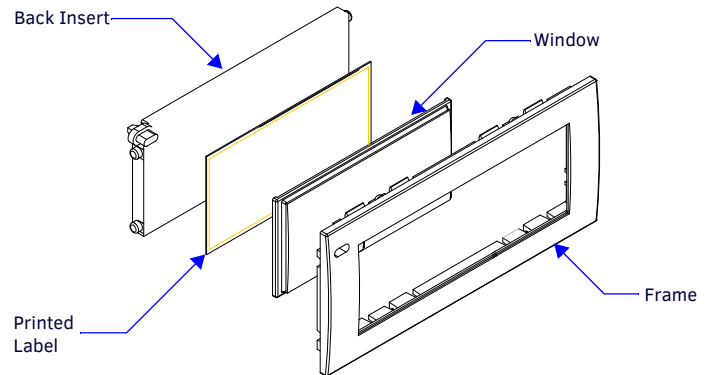

FIG. 3 PRESTIGE BUTTON COMPONENTS
4. The Prestige buttons are comprised of three parts, the frame, window, and back insert. From the front of the button, use your thumb to poke the window and back insert out of the frame. See FIG. 3.